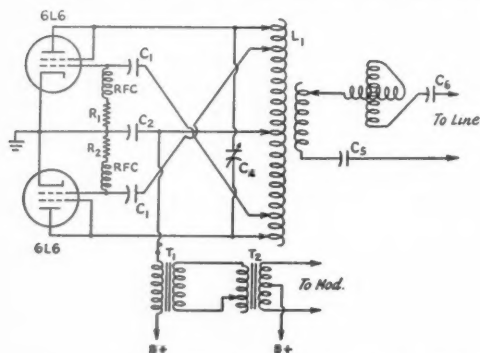

Fig. 1 — Carrier current transmitter with variometer for tuning load.
The circuit we use is shown in Fig. 1. In tuning the rig, the transmitter is set to frequency, then the variometer is adjusted to the point of maximum plate current. If the current is too high the number of turns on the coupling coil is reduced; if too low, the number of turns is increased.
In Fig. 1-A, a probe which can be used as an ohmmeter is shown. It requires two penlight cells and a pilot lamp such as the Sylvania S48, rated at 0.06 amperes at 2 volts. The lamp will light dimly at about 0.7 volts and about 0.03 amperes. Thus with a 3-volt supply this probe can be used to test circuits with resistances up to about 75 ohms. This range includes many of the coils, transformers and other circuit components commonly encountered. In testing low-resistance leads the current rating of the lamp will be exceeded, although it should "take it" if flashed only momentarily.
The probe of Fig. 1-B may be described as a substitute voltmeter for a.c. or d.c. It uses a neon bulb such as the G.E. type G10, with no resistor in its base. The bulb is connected in series with a 50,000-ohm 1-watt resistor. The starting voltage is about 65 volts, d.c., and 50 volts, a.c. The resistor limits the current to a safe value up to about 400 volts. If too high a voltage is used an arc will start between the elements of the tube. The relatively high impedance of this probe permits its use as a substitute for a voltmeter for testing circuits. It readily determines type and polarity of voltage. On a.c. both elements of the tube will glow. On d.c. that element which is connected to the positive side of the circuit glows. As the brilliancy of the glow increases with the voltage, a rough estimate of the voltage is possible.
The probe shown in Fig. 1-C is convenient for testing "A" batteries under load, which is supplied by the coil of resistance wire shown in the diagram. For testing flashlight cells the load may be about 3 ohms and the bulb rated at 1.5 or 2 volts.
A probe used for testing "B" batteries is shown in Fig. 1-D. A 6-watt, 110-volt bulb is used, connected in series with an 800-ohm $\frac{1}{2}$ -watt resistor. Because of the non-linear current characteristics of metallic-filament lamps, it is difficult to estimate changes in voltage by the brightness of the filament. The 800-ohm resistor in series with the filament tends to increase the linearity of the circuit, thereby making it easier to spot a low-voltage battery by a change in the brightness of the filament. A test load is supplied by a 2000-ohm 1-watt resistor shunted directly across the battery. A 45-volt battery in good condition causes the filament to glow red. A good 22½-volt battery will cause the filament to glow at the thresh-
The general construction of these probes is shown in the drawings of Fig. 1. In the cases of A, C and D, $\frac{5}{8}$ -inch diameter bakelite tubing is used as the housing, and in the case of B, $\frac{7}{8}$ -inch diameter. The point of the probe is a $\frac{1}{8}$ -inch rod threaded into a plug which is fastened into the end of the tubing with screws. A convenient method of mounting the bulbs is to solder a nut or binding post to the base to receive a screw passed through the wall of the tubing. The same screw may be used for connection to one of the test leads. As the larger bulbs are easily broken, it is well to wrap them with a turn or two of rubber tape as shown in the drawings. — Robert C. Paine, 436 Cornelia Street, Boonton, N. J.
Fig. 1 — (A) Probe substitute for low resistance ohmmeter. (B) Probe substitute for a.c. and d.c. voltmeter. (C) Probe tester for low-voltage cells. (D) Probe tester for high-voltage batteries.